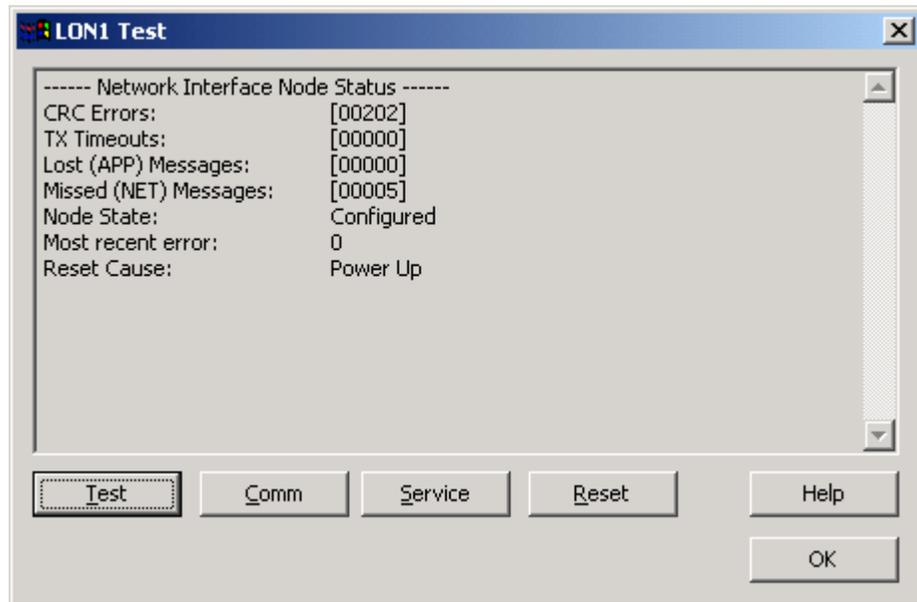

Figure 2.3 Test Dialog
1. On the USB tab, select the USB interface you want to test and then click **Test**. This opens the dialog shown in Figure 2.3.
- Click **Test** to confirm the ability of an application to communicate with the USB interface. A series of statistics will be retrieved and displayed on the dialog, as shown in Figure 2.3. Consult the online help (by clicking **Help**) for descriptions of these statistics.